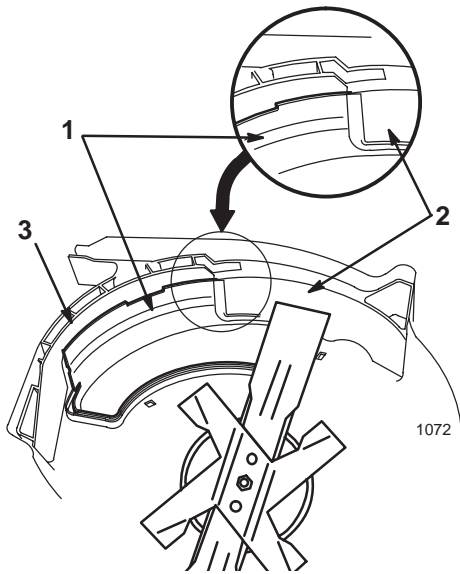

**Figure 37**
9. Secure the chute assembly with the wing screw (Fig. 37).